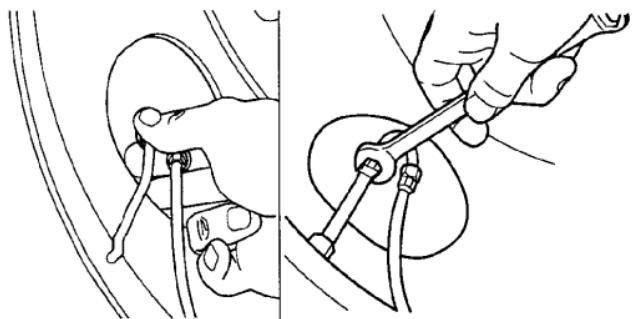

Figure 7: Attaching tire hoses to tire valve stem
4. Tighten the tire hose / valve stem connection finger tight (Figure 7).
5. Using a 7/16" wrench, tighten the tire hose / valve stem connection an additional on-half turn (Figure 7). DO NOT overtighten this connection.